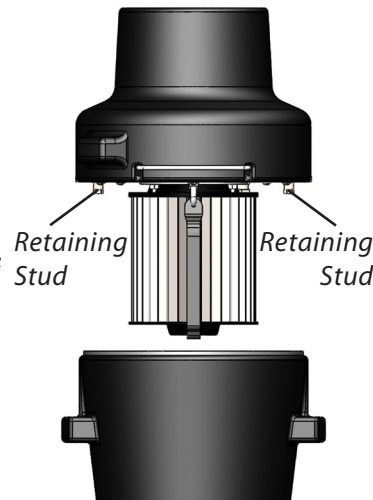

FIG. 12a
Align the two retaining studs on the bottom of the Motor Assembly (A) with the two notches on the Cone Assembly (B) [FIG 12a] and fasten these components together with Draw Latches (F5) on either side. [FIG 12.]